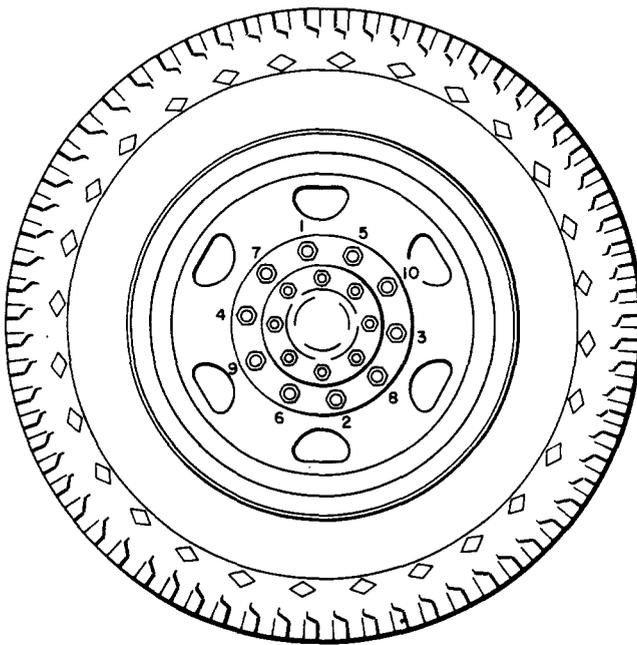
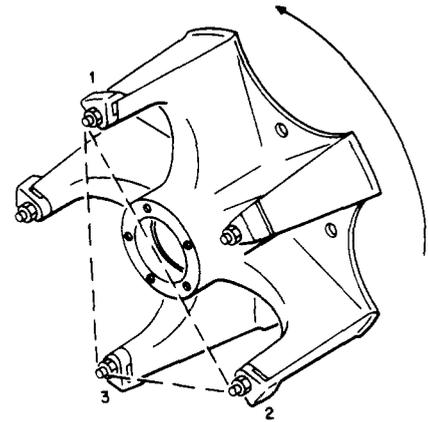

Fig. 6—Sequence For Tightening Cap Nuts
Fig. 7—Sequence for Tightening Rim Bolt Nuts
4.06 The proper tightening of nuts is one of the most important parts of wheel maintenance. After placing a *disc wheel* over the studs, tighten the nuts until snug following the order shown in Fig. 6. After the nuts are snug, repeat tightening order to bring each nut to the proper torque. For wheels with fewer studs, follow a similar order always tightening opposites. For *cast* wheels, select any three nuts that form a triangular pattern as shown in Fig. 7. Snug up nut No. 1; rotate wheel to place nut No. 2 on top and turn it until snug; rotate wheel to place nut No. 3 on top and turn it until snug. Repeat the procedure to bring the three nuts to the proper torque, and then bring remaining nuts to proper torque.